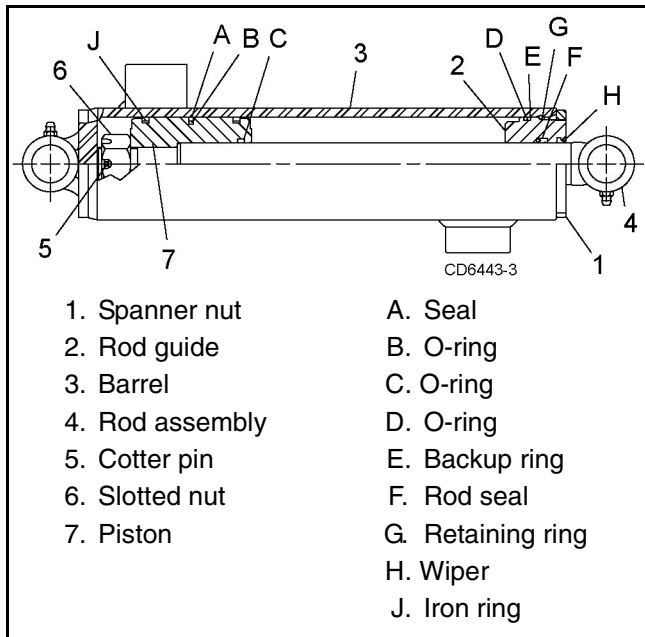

Figure 20. Swing Cylinder
On the 2-1/2" spanner nut type cylinders, Figure 20, unscrew spanner nut (1) using a spanner wrench, or carefully use a punch and hammer.